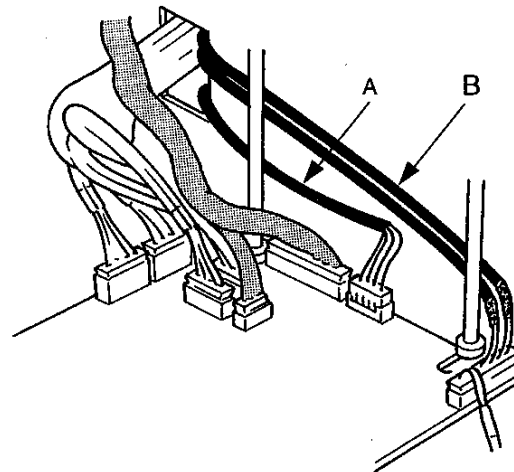

Fig. 2.3.2 When installing
- Run each cable as shown in Fig. 2.3.2. The cable "A" (part of the Main P.C.B. Ass'y) and cable "B" must run behind the shafts of the Loading Ass'y.